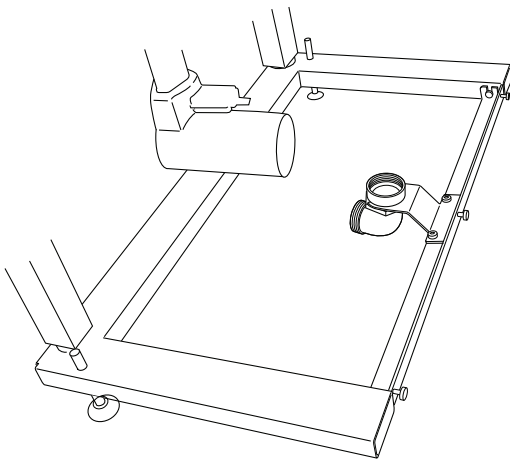

Fig. 5
1. Cut the drain pipe to a suitable length according to the floor drain. See Fig. 5 and 6. Install an air gap bracket, if needed. Remove the drain trap if not needed.